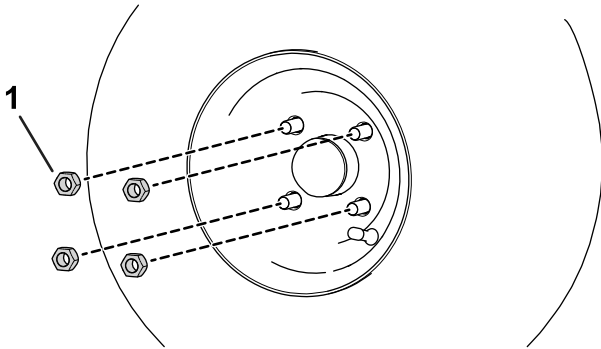

Figure 7
1. Use the previously removed lugnuts to secure the wheel to the hub (Figure 7).